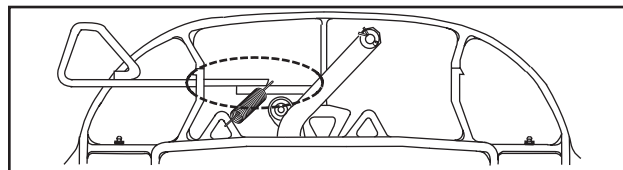
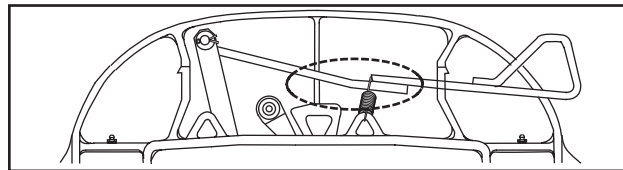

Figure 1a
Figure 1b
- E. Inspect the release handle. If your fifth wheel is **right-hand** (curb side) release, apply grease along the release handle where it contacts the handle spring (see **FIGURE 1A**). If you have a **left-hand** (driver side) release handle with a sliding spring, as shown in **FIGURE 1B**, apply grease along the release handle where it contacts the handle spring.